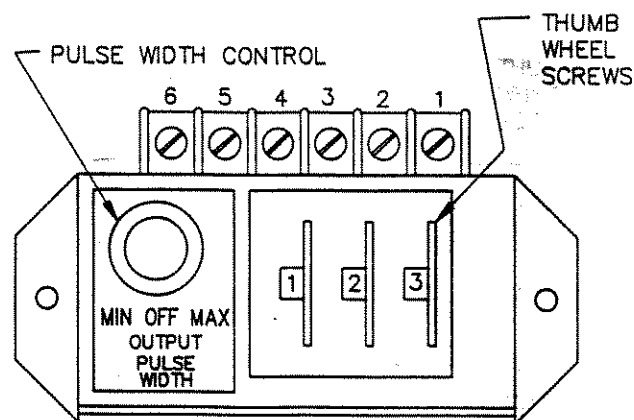

Figure 6-10
- Measure the voltage between terminals 1 and 2. See Figure 6-10. The voltage should be between 11.5 and 50 Vdc with terminal 1 positive.